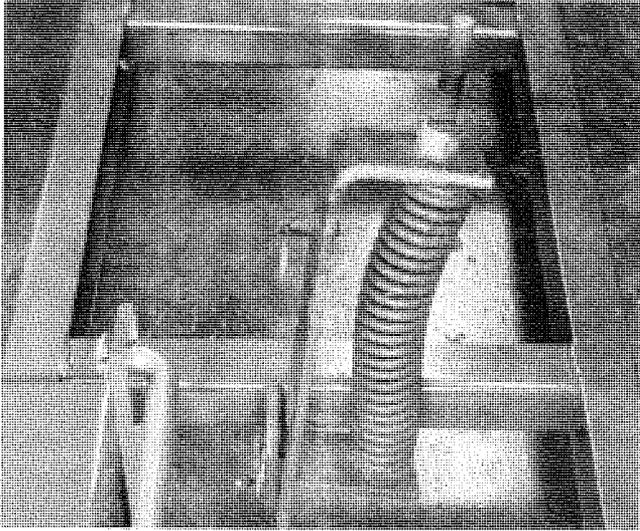
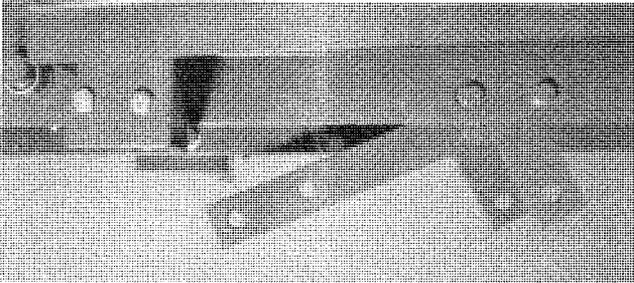
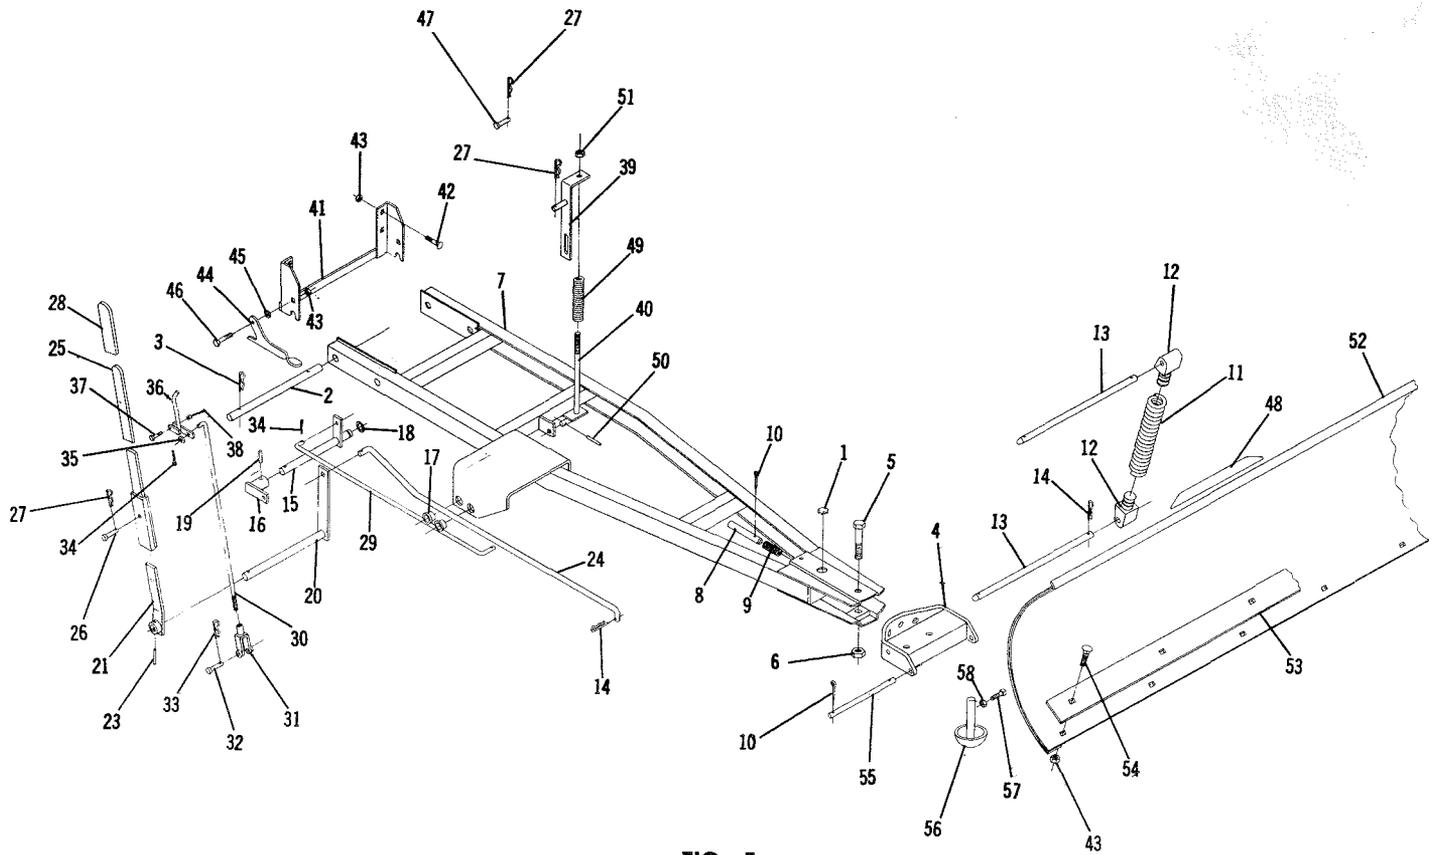

FIG. 3
FIG. 4
FIG. 5
The Blade Control Rod, item 24, is inserted through the top of the pivot sector, item 4, and secured with hairpin cotter. Bolt the Pivot Sector, item 4, to the frame assembly using the Hex Bolt, item 5, and elastic stop nut, item 6. (NOTE: Apply a liberal coat of grease before installing.) Insert the bolt from the top and tighten, leaving it loose enough for the blade to swing free. Attach the control rod to the control arm. See Fig. 3.
Referring to Fig. 3 and Fig. 5, place Spring, item 49, over the Lift Rod Assembly, item 40. Install the Lift Bar, item 39, with the hole over the Lift Rod and the slot engaging the stud on the Lift Rod. Add Nut, item 51, to the top and Pin, item 50, to the bottom.
The lift engaging pin, Fig. 3, is installed in the rear hole of the two hole pattern in the tractor lift bar, Fig. 4.